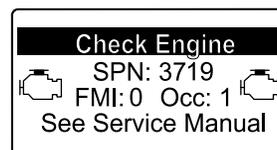

Figure 50
- Engine warning SPN 3719, FMI 0 (Figure 50)